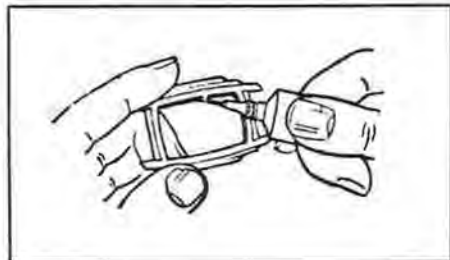

Figure 3
5. Apply cement away from the hypo point, fitting in square of the bezel as in Figure 3. Start at corner and slide smoothly around bezel. **SQUEEZE VERY LIGHTLY**; cement will flow